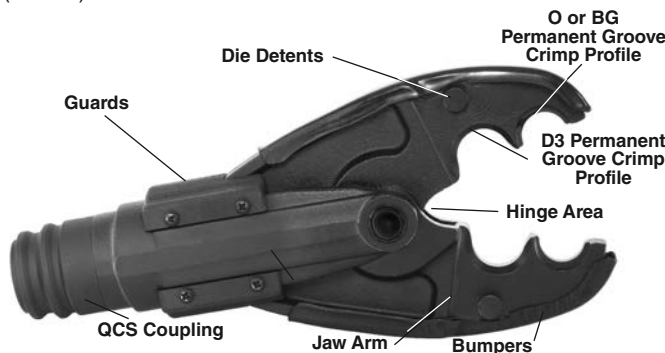

Figure 1 – UC-60 Crimp Head
- Free movement of the jaw arms. The jaw arms should be biased open. Inspect hinge area (Figure 1) for damage.